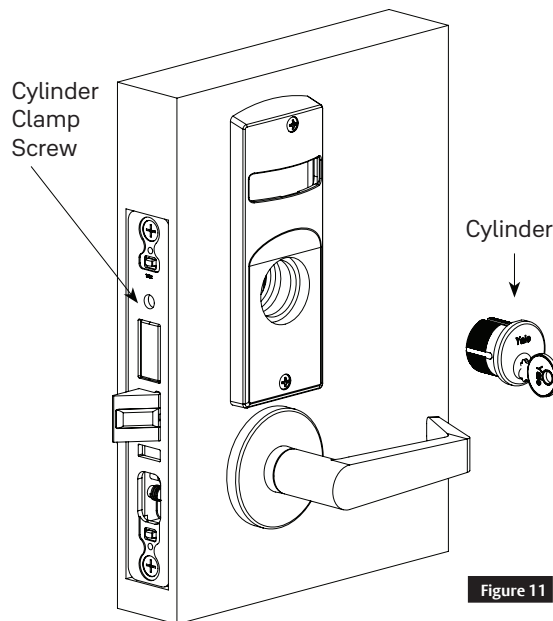

Figure 11
1. Thread cylinder into lock until flush with indicator escutcheon surface. (Figure 11)